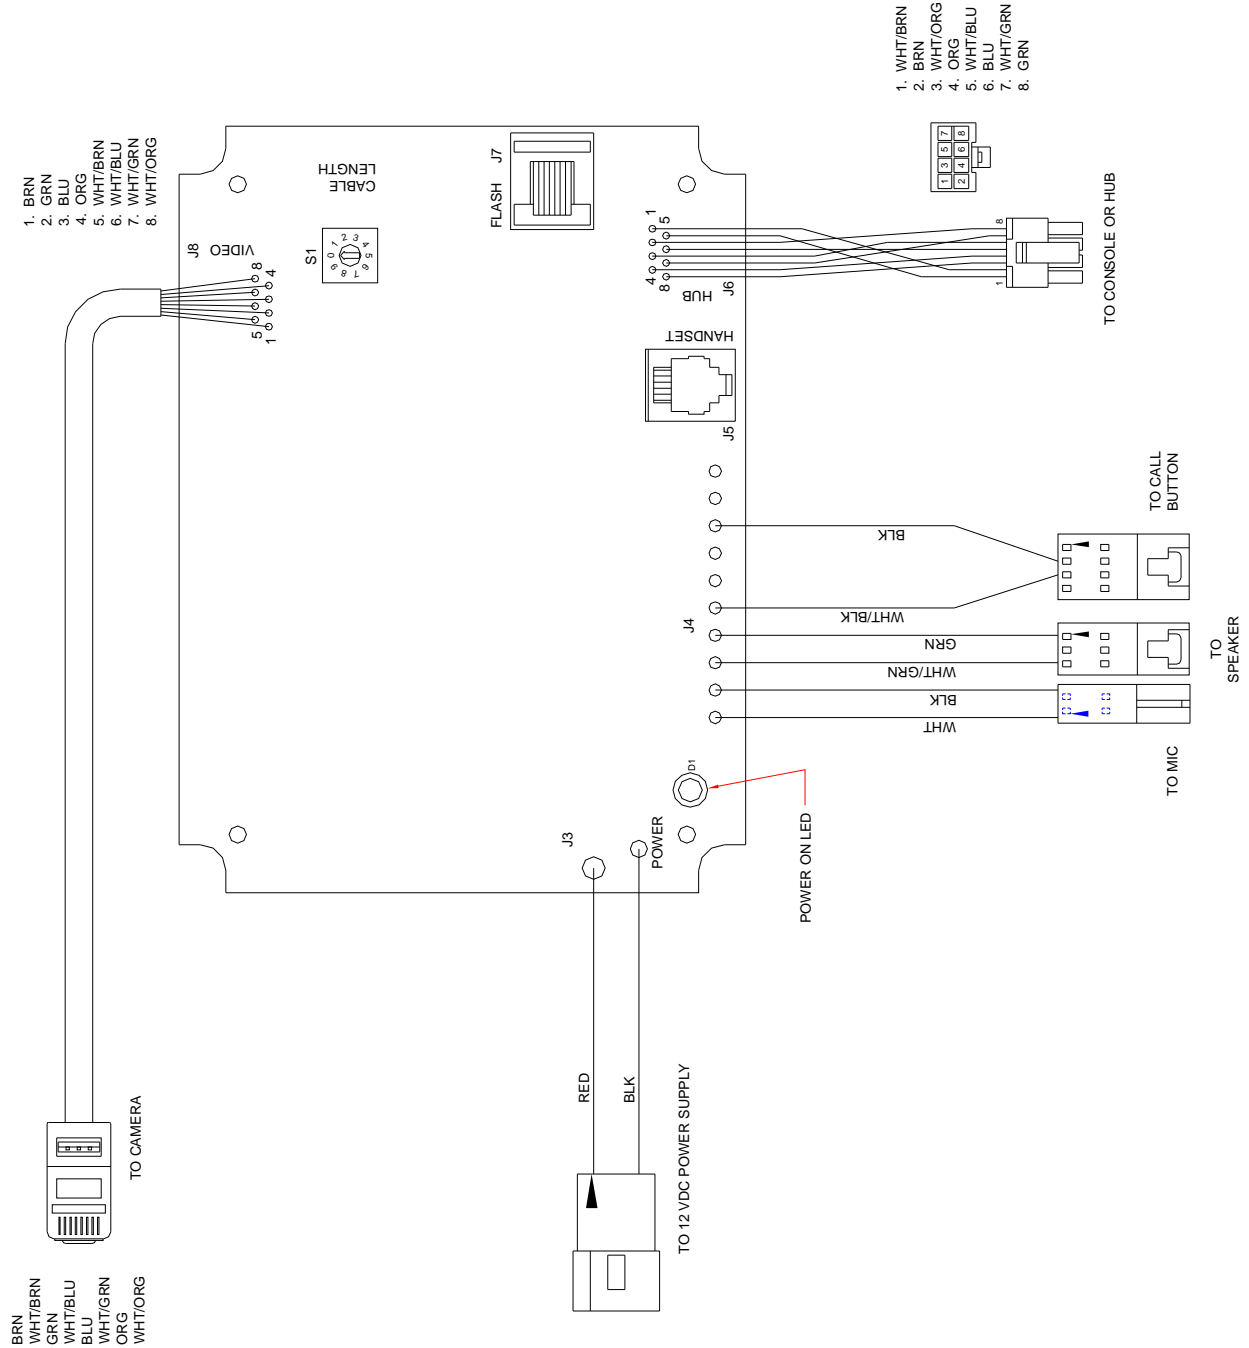

Fig. 1
6. Connect the wires to the lane board (see fig.1) and secure with the wire tie mounted in the head.
**After setting the video head in the correct position, drill (2) 3/16" holes through the case bottom and use the plastic breakaway screws and nylon lock nuts provided to hold the video head in place.**